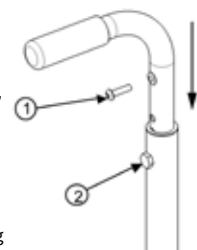

Fig. 13
- Remove screw (1) (Fig. 13) that holds the back upholstery.
- Pull backrest upholstery down several centimeters to gain access to screw (2), which holds the push handle.
- Remove screw (2) and then remove the backrest handle.
- Reinstall and tighten screw (2) firmly.
- Install back upholstery at and fix it firmly with screw (1) on each back cane.